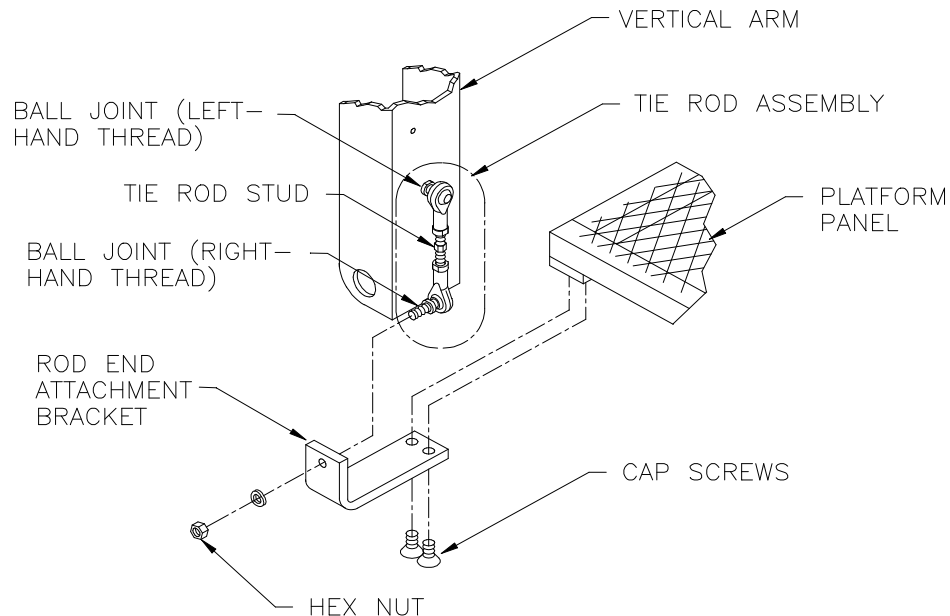

FIGURE 2-20: TIE ROD INSTALLATION
- b. Refer to **Figure 2-20**. Assemble rod end attachment brackets to left and right tie rod assemblies at right-hand ball joint.